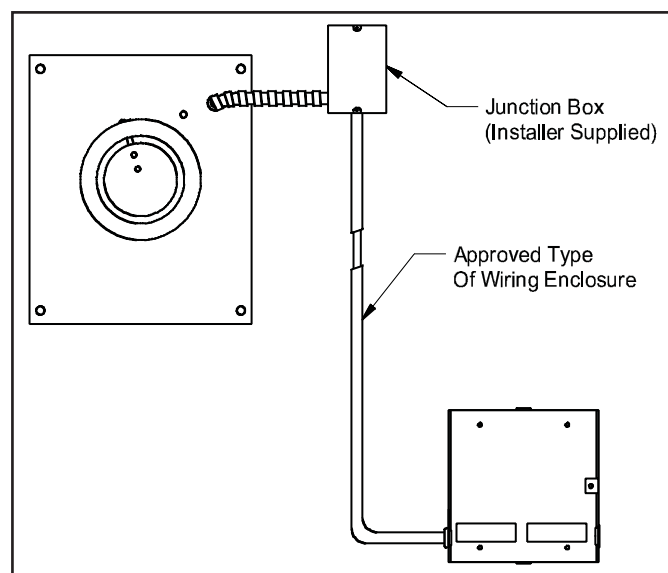
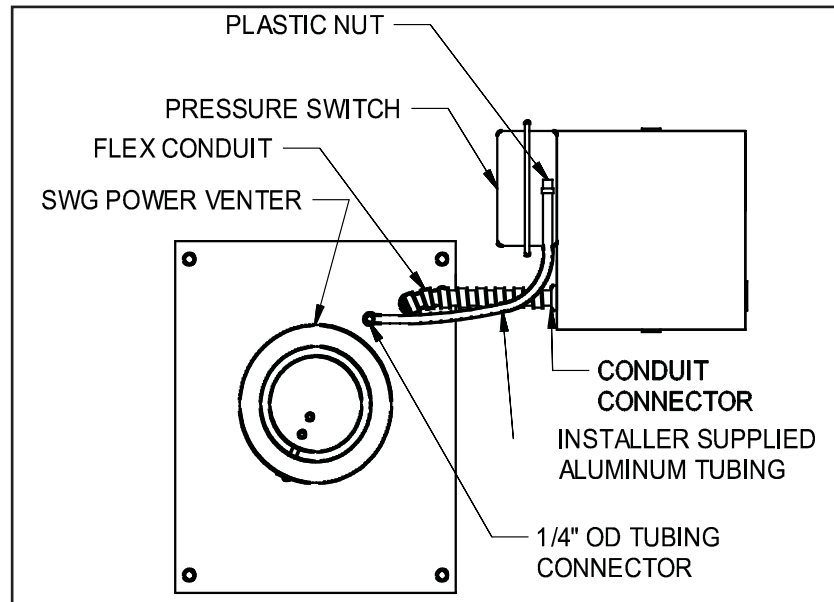

Figure 2
Figure 3
2. Fasten the flexible conduit from the SWG Venter into the conduit connector. Mount the CK-41P control box onto a non-heated vertical surface of the appliance or nearby wall or floor joist through the four dimpled locations on the base of the box. NOTE: The mounted pressure switch diaphragm must be mounted with a vertical orientation; see label on pressure switch. (See Figure 3) If required, run additional wiring as in figure 2 and connect to CK-41P control box, if required, using the supplied flexible conduit connector and approved connectors and anti-short bushings.
1. Attach the 1/4" tubing connector to the pressure tube on the SWG Venter. (See Figure 3)